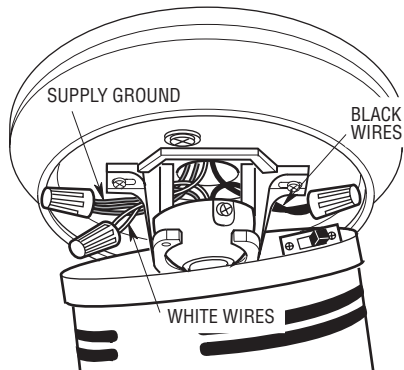

Figure 4
- 2. Securely connect the fan motor white wire to the supply white (neutral) wire using wire connector supplied (Figure 4).
- 3. Securely connect the fan motor black wire to the supply black (hot) wire using wire connector supplied (Figure 4).